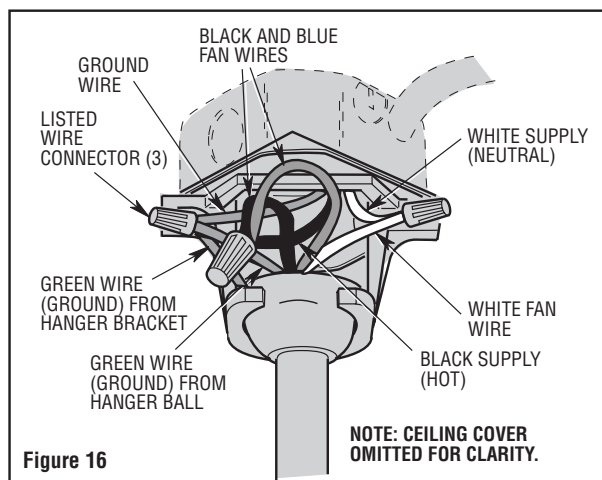

Figure 16
1. Connect the green grounding lead from the hanger ball and the green grounding lead from the hanger bracket to the grounding conductor of supply (this may be a bare wire or wire with green colored insulation). Securely connect wires with wire connectors supplied. (Figure 16.)
2. Securely connect the fan motor white wire to the supply white (neutral) wire using wire connector supplied (Figure 16). Securely connect the fan motor black wire and blue wire to the supply black (hot) wire using wire connector supplied (Figure 16). After connections have been made, turn leads upward and carefully push leads into the outlet box, with the white and green leads on one side of the outlet box and the black and blue leads on the other side of the outlet box.